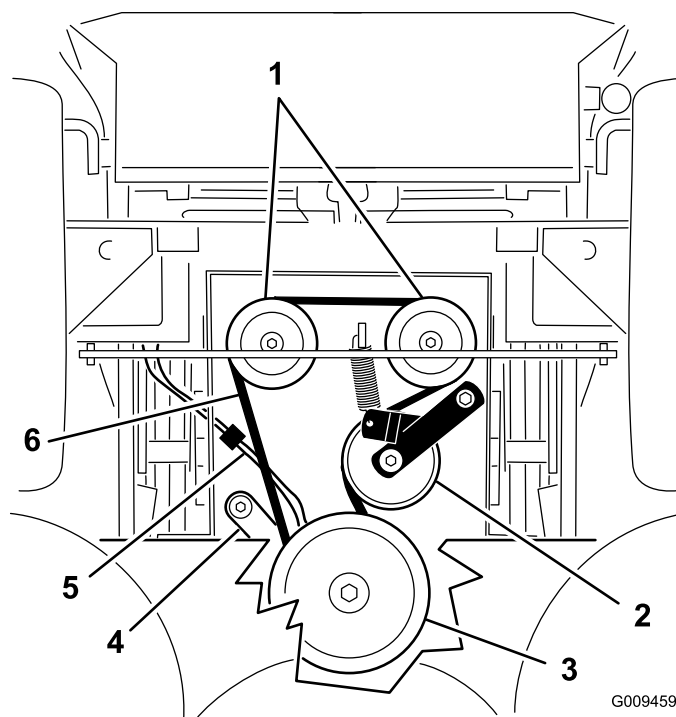

Figure 62
6. Disconnect the clutch retainer from the engine deck (Figure 62).
7. Unhook the idler spring from the frame (Figure 62).
9. Install the idler spring between idler arm and frame bracket (Figure 62).
10. Install the clutch retainer to the engine deck (Figure 62).